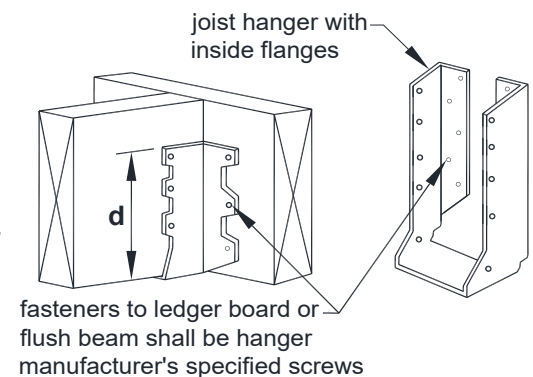

FIGURE 10: JOIST HANGERS
- Joist hanger depth, d , as shown in FIGURE 10, shall be greater than or equal to 60 percent of the joist depth.